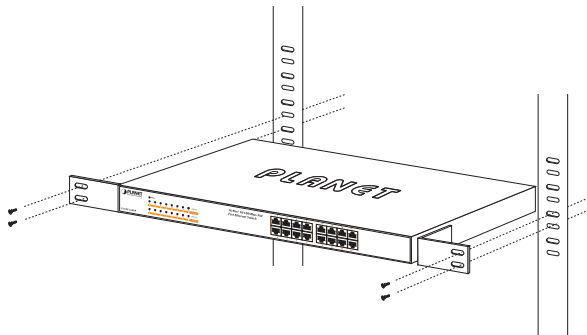

Figure 3-3: Mounting the 802.3at PoE+ Switch in a Rack
- Step5:** After the brackets are attached to the 802.3at PoE+ Switch, use suitable screws to securely attach the brackets to the rack, as shown in Figure 3-3.